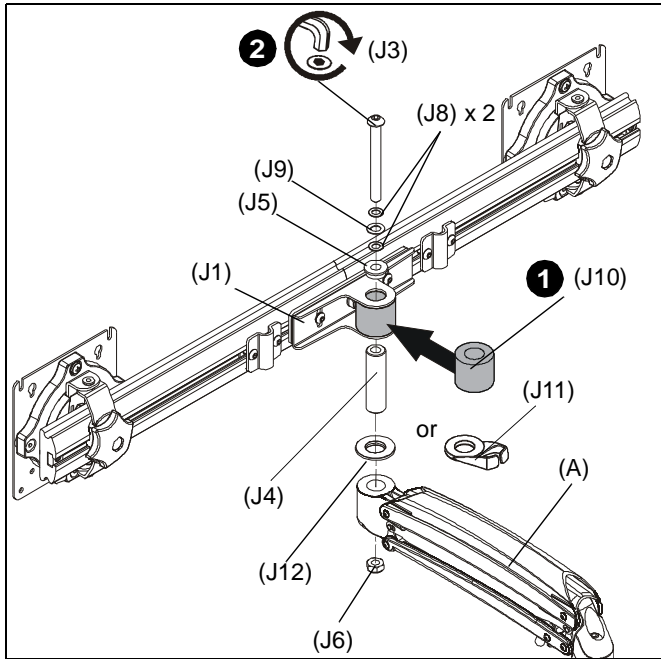

Figure 12
- Slide rotational spacer (J10) into opening on array attachment bracket. (See Figure 12)
- Use 5/16-18 x 3" button head cap screw (J3), two thin steel washers (J8), plastic spacer (J9), pocket washer (J5), pivot pin (J4), pivot point spacer (J12) and 5/16-18 lock nut (J6) to secure array (J1) to K1C arm (A). (See Figure 12)
NOTE: Cable clip (J11) can be used in place of pivot point spacer (J12) if additional cable management is desired. (See Figure 12)